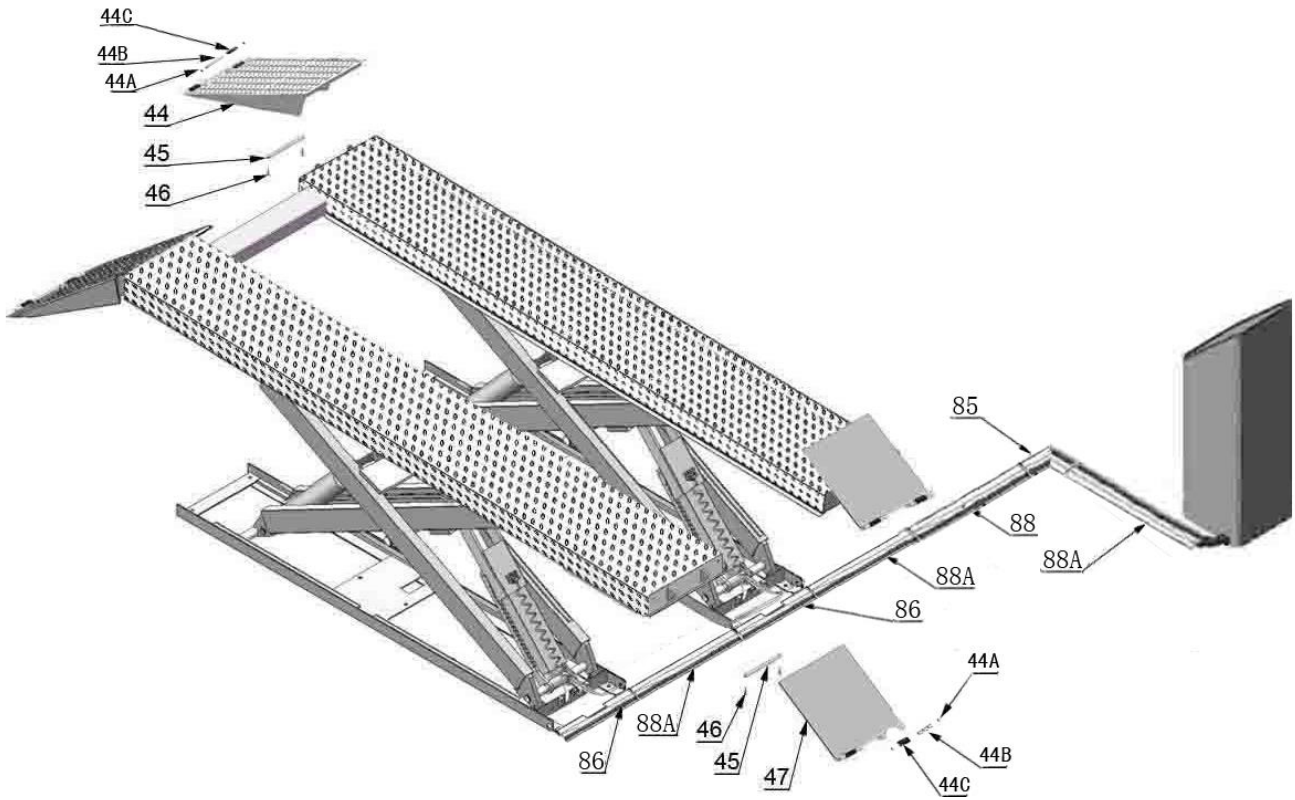

Fig. 5
1.2 Illustration of scissors lift **TLX12** on surface installation (See Fig.5).